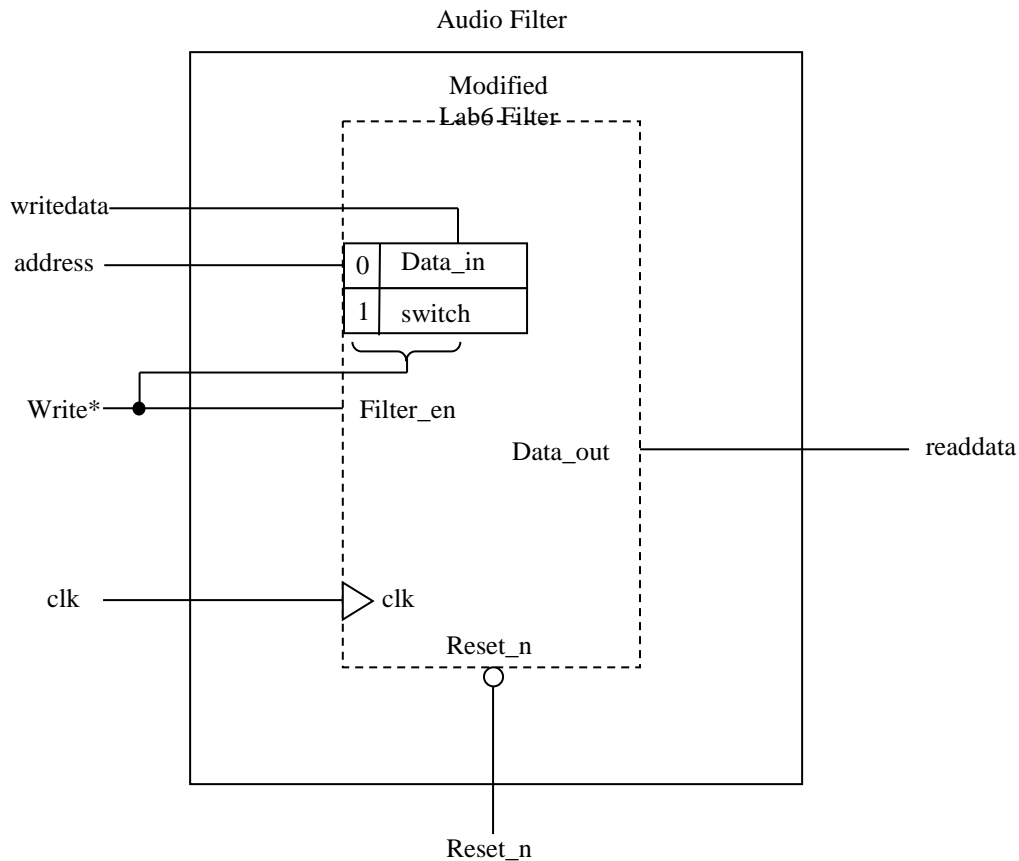

Figure 1. Connections of audio filter entity to the modified lab 8 filter
4. Edit the entity of the filter to match the signal names and types expected by QSYS. The entity should match the following and connect with your modified filter as shown in figure 1.